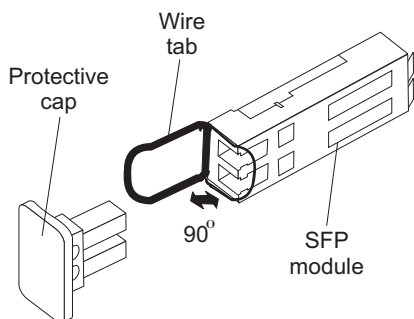

Figure 33. Unlocking the SFP module latch - wire variety
- For SFP modules that contain wire tabs, unlock the SFP module latch by pulling the wire latch outward 90°, as shown in Figure 33 on page 54.